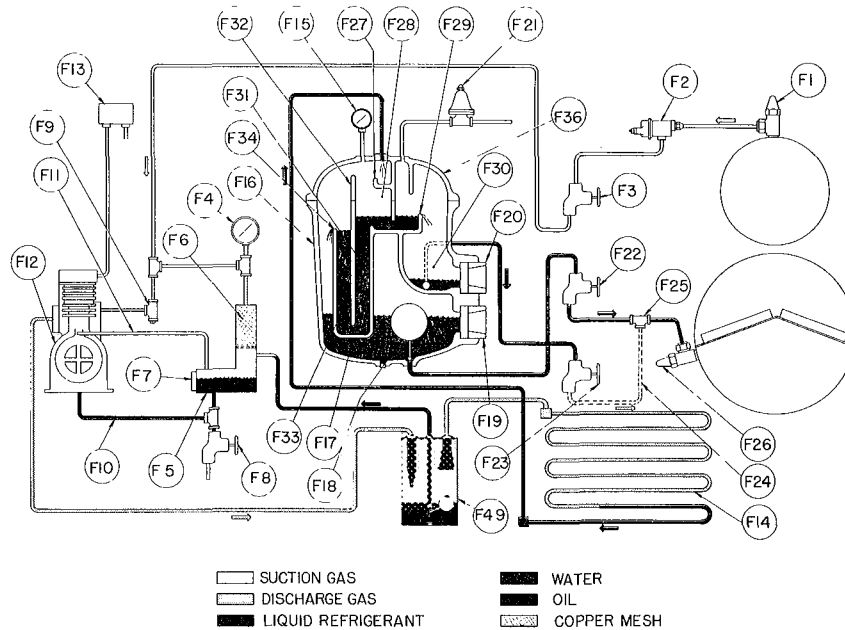

FIG. 5-5 - PURGE CYCLE
The compressor item (12), Fig. 5-5, removes vapor from the top of the main condenser. This vapor is mostly refrigerant gas; however, some air or water vapor may be present. The mixture is compressed and discharged into the oil separator (49) which removes and returns oil to the oil reservoir. The mixture then passes to the purge condenser (14). Air blown over the condenser by the fan condenses the refrigerant and water vapor. The mixture is then air, liquid refrigerant and water. This mixture passes from the condenser into the separation chamber (16). If an appreciable amount of air is forced into the separation chamber, the pressure rises until it reaches the setting of the relief valve(21) and is discharged to atmosphere.